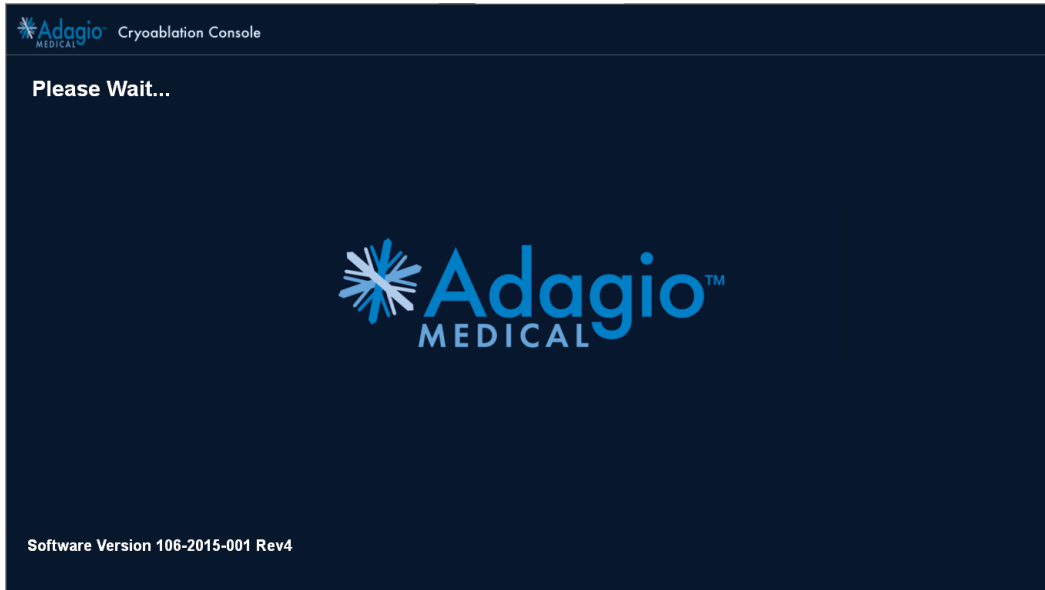

Figure 7 – Splash screen image
4. The system will automatically check the communication among its components. While this is in-progress, the following splash screen (Figure 7) will appear. There is no need for user intervention at this time. If the Adagio Medical logo does not appear, click the task view (Figure 8) and select the Adagio Medical GUI application.